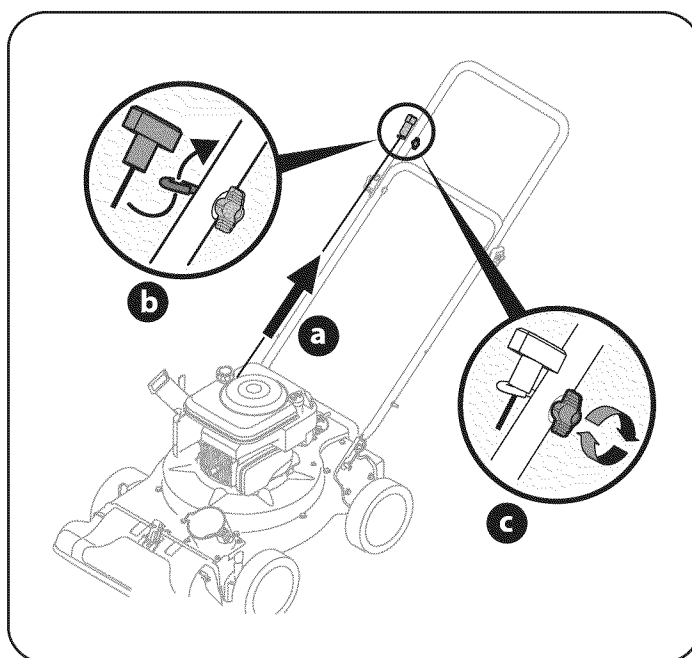

Figure 4
- a. Pull the starter rope out of the engine slowly. See Figure 4.
- c. Tighten the wing nut. See Figure 4.